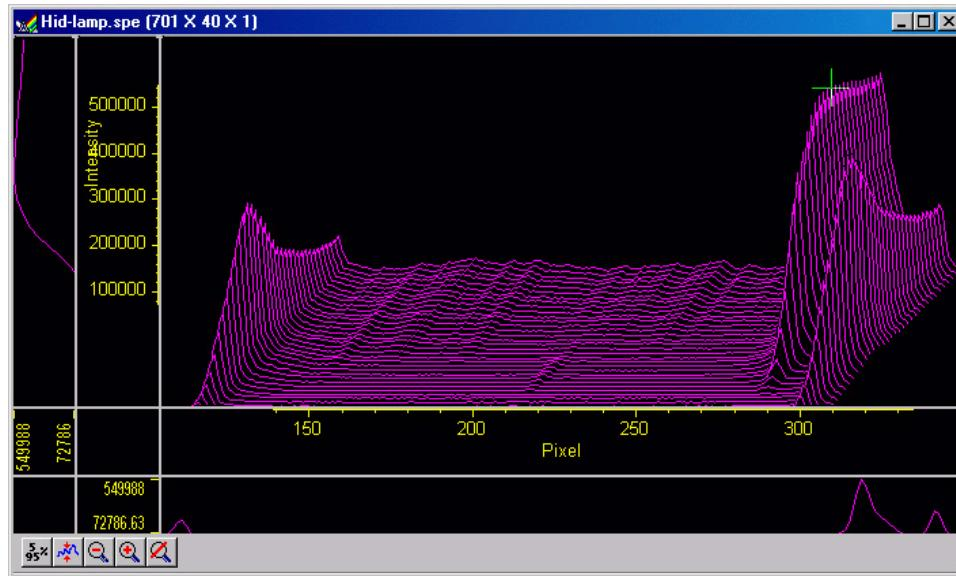

Figure 80. Hide-lamp.spe 3D graph expanded to show defined region
2. Click on (Zoom In). The view will change so that only the selected region is displayed as shown in Figure 80.